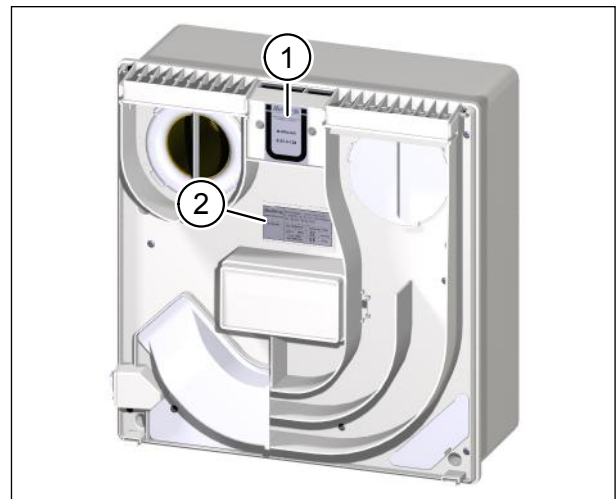

Fig. 3: Approval number and nameplate
The approval number is Z-51.3-138 (see item 1 in Fig. 3).
You will find the nameplate on the intermediate plate on the inside of the housing (see item 2 in Fig. 3).